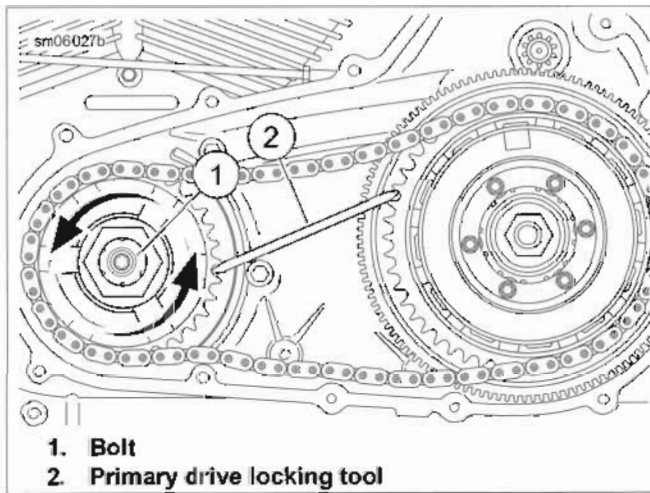

Figure 5-8. Removing Engine Compensating Sprocket Bolt
9. See Figure 5-8. Place the PRIMARY DRIVE LOCKING TOOL (Part No. HD-47977) between the teeth of the engine and clutch sprockets as shown.